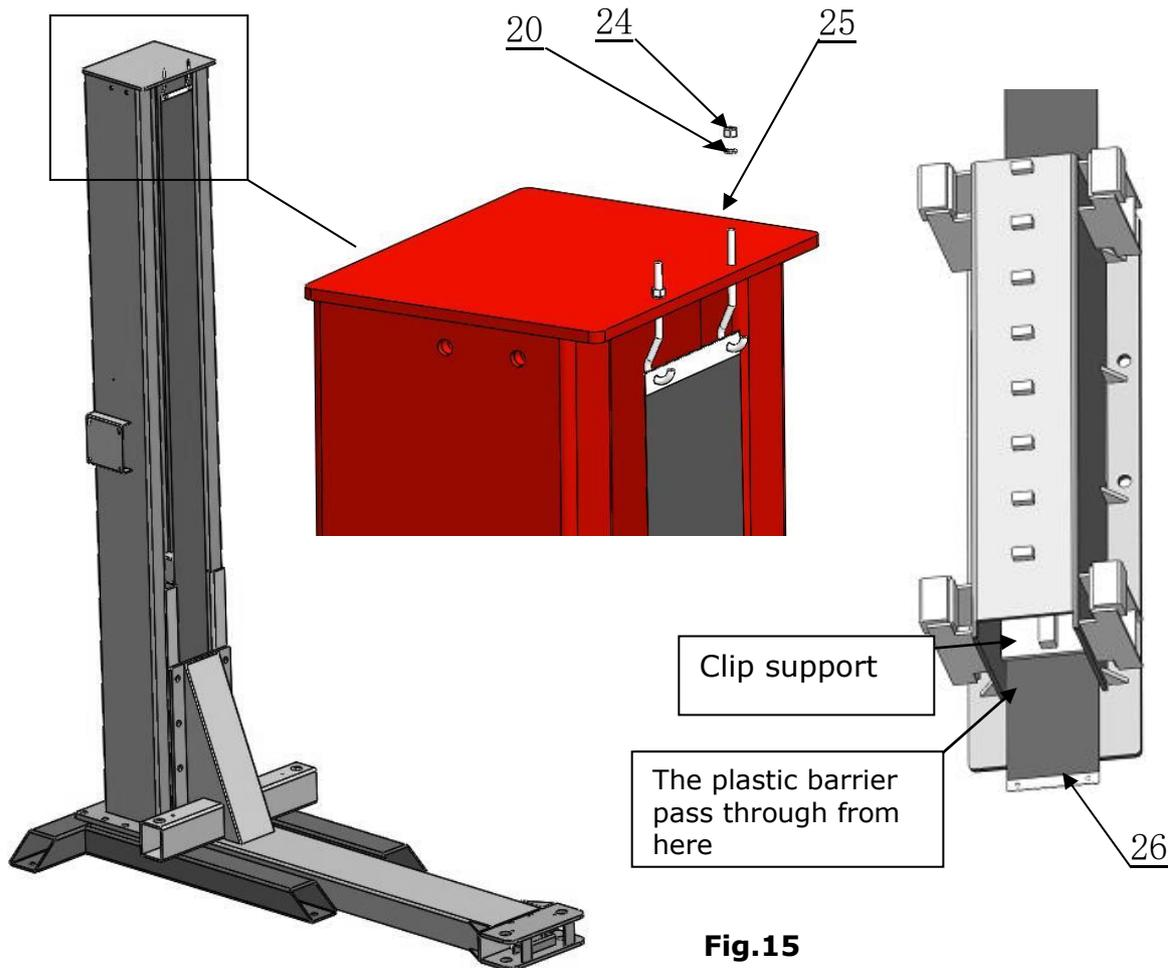

Fig.15
F. Install plastic barrier (See Fig.15)